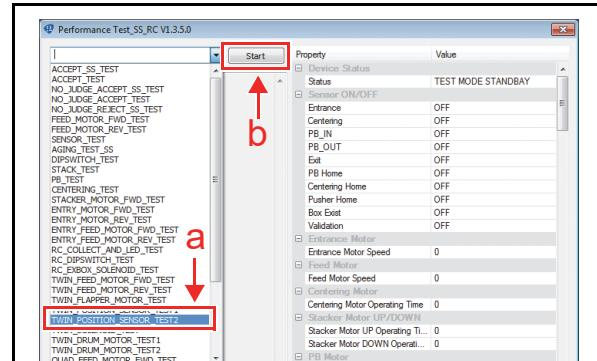

**Figure 6-44 Note Position Sensor 1 -3 Test 2**
6. Confirm the “ON/OFF” indication (Detected/NOT Detected) appeared in the “RC-Position sensor 1 (RC-Twin)” area (Figure 6-44 a).
7. Click the “Stop” Screen Button (Figure 6-44 b) to end the test.